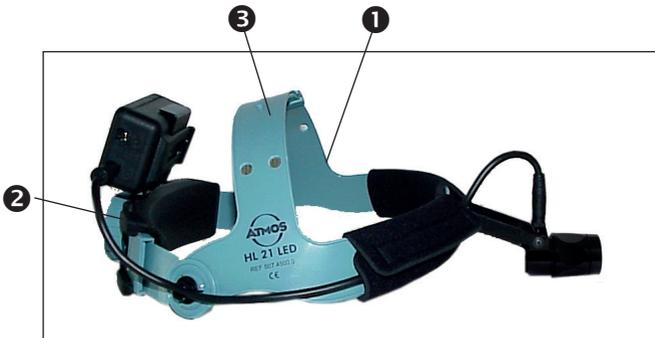

Fig. 2. ATMOS HL 21 LED headlamp
- First, take the headlamp frame incl. headlamp (❶, Fig. 2) and put it on a table in front of you.
- Depending on the head circumference, adjust the headlamp frame gradually to a comfortable and correct fit with the locking screw (❷, Fig. 2). The height of the headlamp frame is adjusted by means of a strap (❸, Fig. 2).